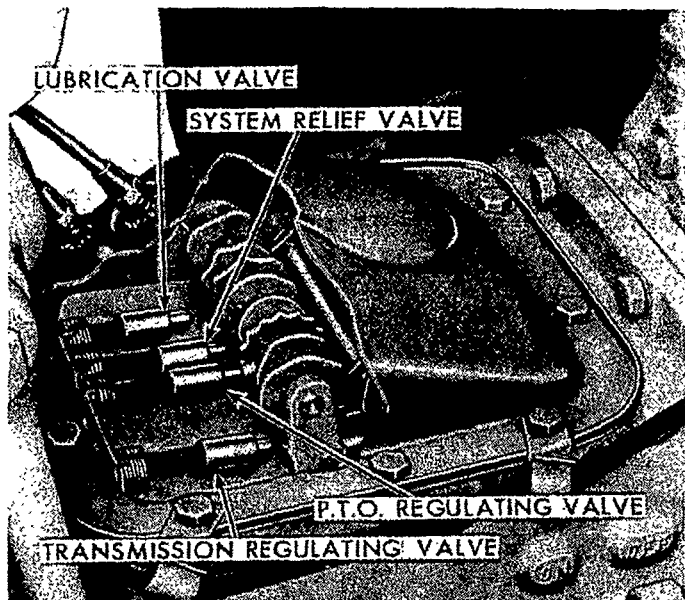
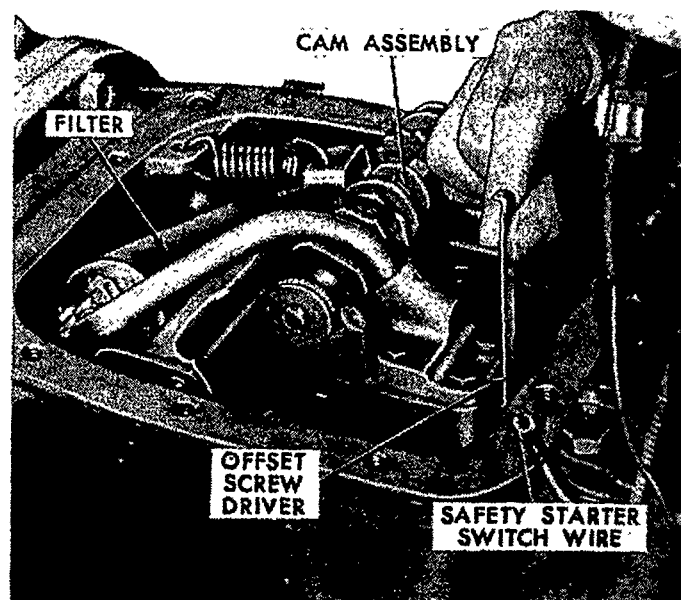

Figure 27
Figure 28
7. With the valve in park (P) position, start the engine by grounding the safety starter switch wire. Operate the engine at 800 rpm.
8. Referring to Figure 27, locate the valve plunger to be adjusted. Use an offset screwdriver or the retainer removed in step 5, as shown in Figure 28, to turn the adjusting screws. The procedure is detailed under "Checking Valve Pressures." The following chart summarizes this procedure for ready reference.
NOTE: When adjusting the regulating valves, the neutral position is obtained by rotating the valve camshaft from park (P) in the direction shown in Figure 28.